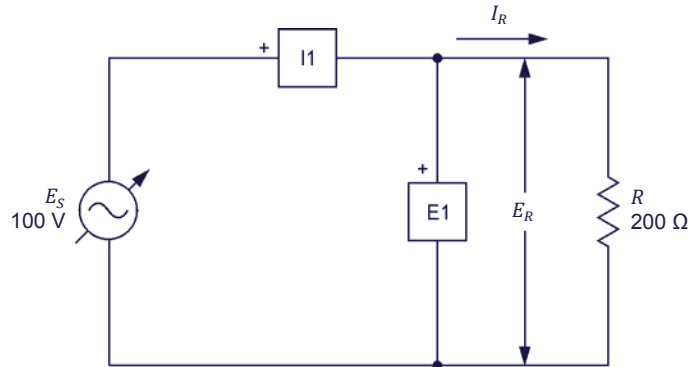

Figure 3-5. AC circuit containing a resistor and set up for power measurements.
6. Set up the circuit shown in Figure 3-5.
8. Calculate the active power P dissipated in the resistor of the circuit shown in Figure 3-5.